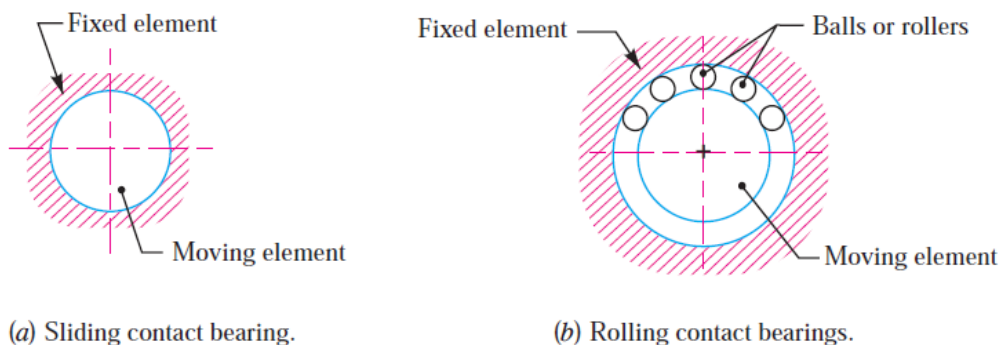

Fig. 26.2. Sliding and rolling contact bearings.
2. Depending upon the nature of contact. The bearings under this group are classified as : (a) Sliding contact bearings, and (b) Rolling contact bearings. In sliding contact bearings, as shown in Fig. 26.2 (a), the sliding takes place along the surfaces of contact between the moving element and the fixed element. The sliding contact bearings are also known as plain bearings.
In **rolling contact bearings**, as shown in Fig. 26.2 (b), the steel balls or rollers, are interposed between the moving and fixed elements. The balls offer rolling friction at two points for each ball or roller.